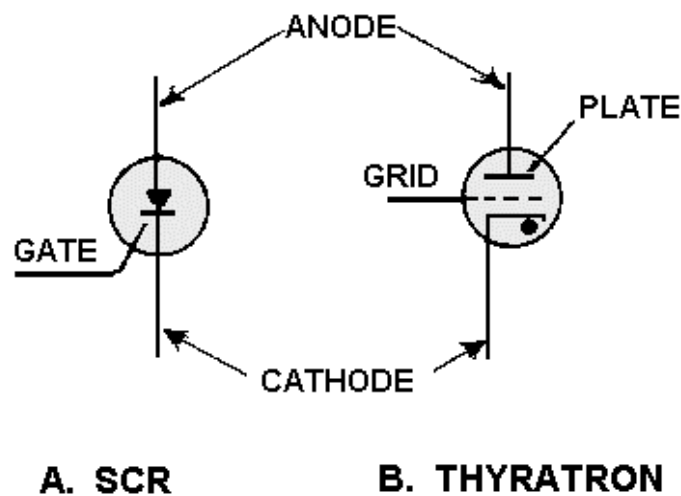

Figure 3-21.—Comparison of an SCR and a thyatron.
The basic operation of the SCR can be compared to that of the thyatron. The thyatron is an electron tube, normally gas filled, that uses a filament or a heater. The SCR and the thyatron function in a very similar manner. Figure 3-21 shows the schematic of each with the corresponding elements labeled. In both types of devices, control by the input signal is lost after they are triggered. The control grid (thyatron) and the gate (SCR) have no further effect on the magnitude of the load current after conduction begins. The load current can be interrupted by one or more of three methods: (1) the load circuit must be opened by a switch, (2) the plate (anode) voltage must be reduced below the ionizing potential of the gas (thyatron), (3) the forward-bias current must be reduced below a minimum value required to sustain conduction (SCR). The input resistance of the SCR is relatively low (approximately 100 ohms) and requires a current for triggering; the input resistance of the thyatron is exceptionally high, and requires a voltage input to the grid for triggering action.